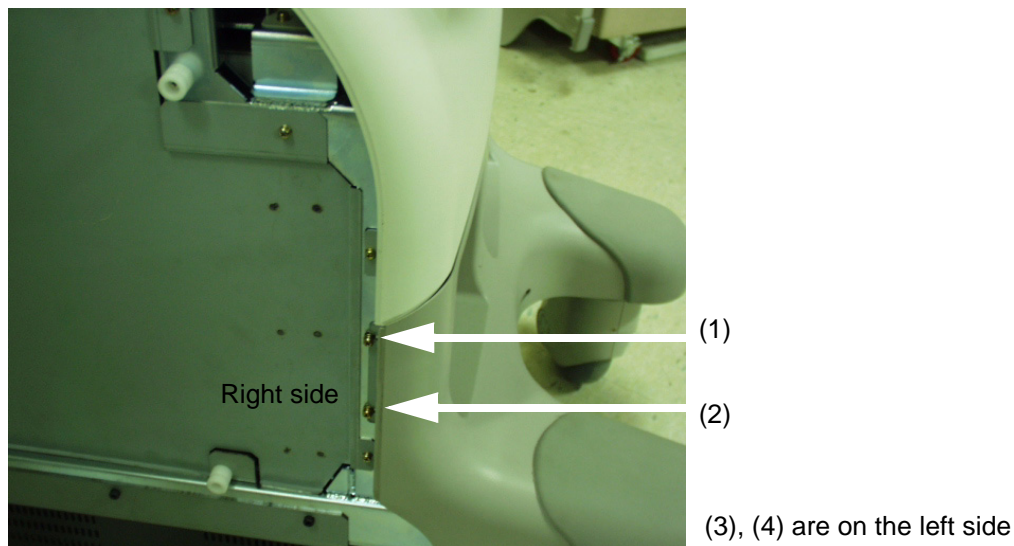

Figure 8-54 Unscrew 2 screws on the Right side
- 3.) Unscrew four screws (1-4). Refer to Figure 8-54.